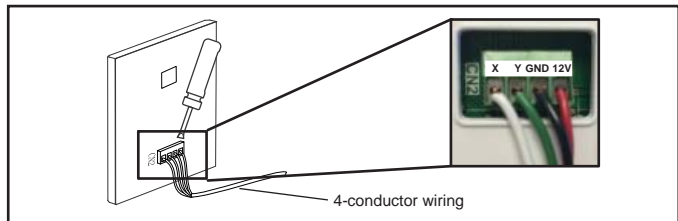

Figure 3. Connection at Controller
- At the controller, wire the field-provided 4-conductor shielded cable to X / Y / GND / 12V terminal of the controller. See figure 3.